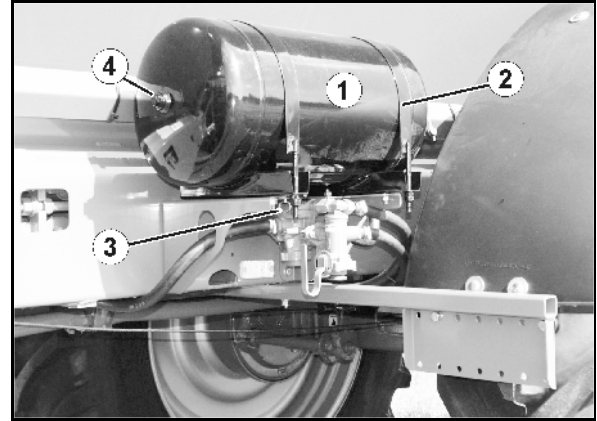

Fig. 94
2. Unscrew the drainage valve (Fig. 94/3) from the air reservoir and clean the reservoir if there are signs of dirt.